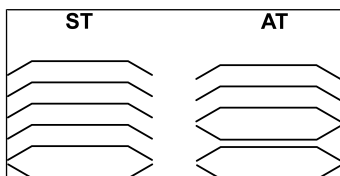

Fig.9: Location of disk springs
1. Place the head plate (4) on the intermediate plate (3) according to the felt-tip pen marking.
2. Put on the disk springs (5) (for location, see Fig. 9).
3. Put on the cap nuts (6) and tighten them (tightening torque: 5 Nm).